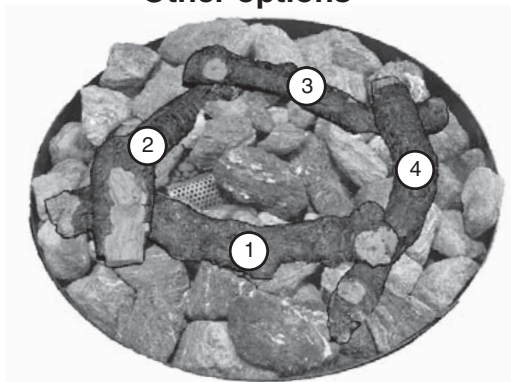

Fig. 20-2
2. Lay an end of Log #3 over the unattached end of Log #2 at a 90-degree angle (see Fig. 20-2).
3. Place one end of Log #4 over the open end of Log #3 and the other end underneath the open end of Log #1, creating a kind of square (see Fig. 20-2).